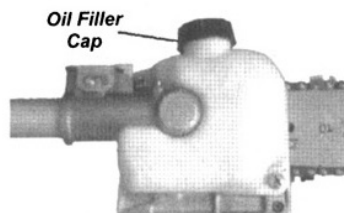

Figure 22
1. Place the pole pruner on a clean, flat surface with the oil filler cap facing up. See Figure 22. Wipe off any debris from the oil cap and from around the oil filler neck.